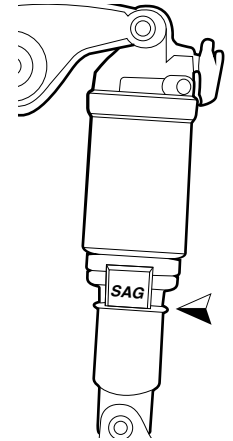

Figure 22. SAG Adjuster
- Step off your bike gently to avoid a harsh movement and measure the "SAG" (Figure 22). A SAG that is too weak indicates that there is too much pressure in your fork. You should therefore take out air from your suspension. Inversely, a too high SAG indicates that there is not enough, you should therefore, add air. To do this:
Your Moustache is equipped either with a sticker indicating the level of SAG with a red sliding scale. The ideal SAG has been reached when the O-ring is aligned with the red scale as in Figure 22. If the O-ring has gone further than this mark your shock needs more air. Inversely, if the ring has not reached the mark, there is too much air in your shock.